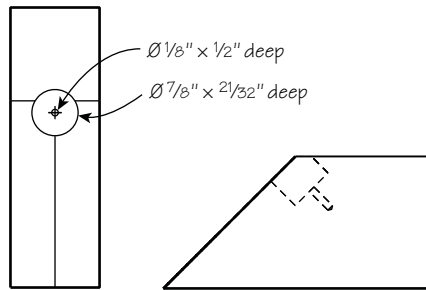

Figure 7: Drilling the holes in the blade bed.
6. At the $3\frac{5}{16}$ " mark, drill a $\frac{7}{8}$ " diameter hole to a depth of $2\frac{1}{32}$ " (this hole will receive the adjustment cup). Use a $\frac{1}{8}$ " bit to drill a pilot hole, $\frac{1}{2}$ " deep, inside the $\frac{7}{8}$ " hole for the #10 $\times \frac{3}{4}$ " wood screw, as shown in **Figure 7**.